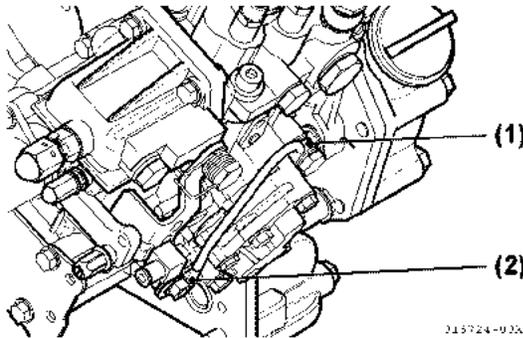

Figure 6-49
8. Reconnect the lubricating oil line (Figure 6-49, (1)) and clamp (Figure 6-49, (2)).